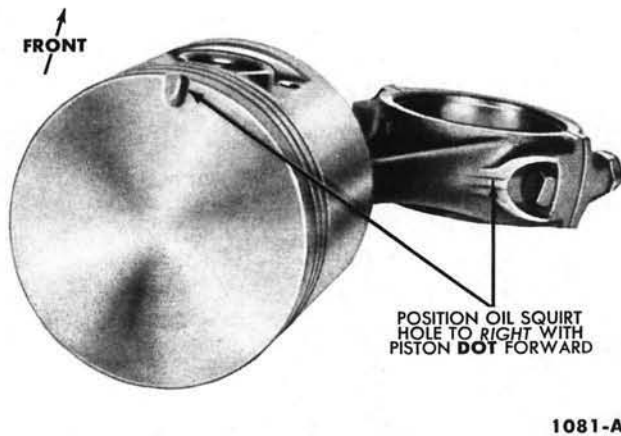

FIG. 41—Correct Position of Oil Squir Hole
1. Lubricate all parts with light engine oil. Position the connecting rod in the piston and push the pin into place. Assemble the piston and connecting rod with the oil squirt hole in the rod positioned as shown in Fig. 41.